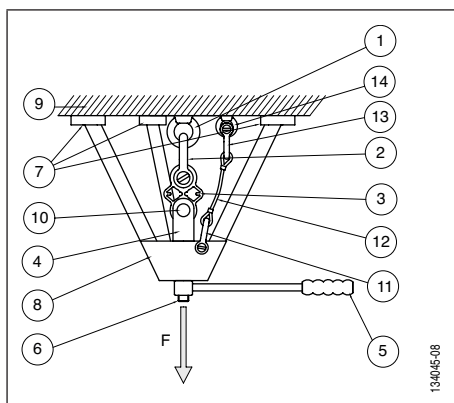
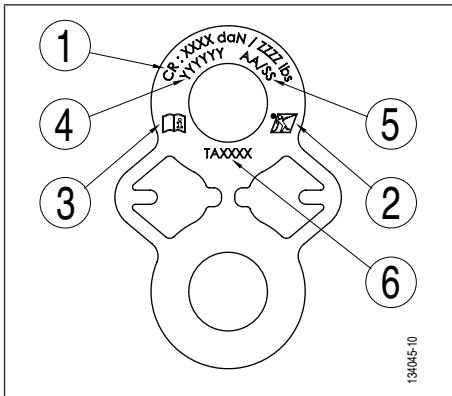
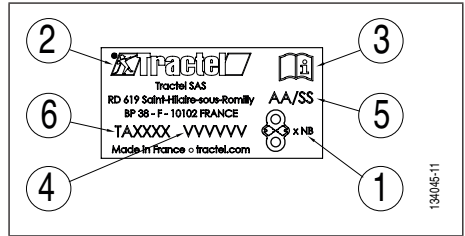

Fig. 6
Fig. 8
Fig. 9
- 1 manually-operated loaded device, tripod type (see Fig. 6, page 5),
- 1 safety device to secure the loading device in the event of shearing of the anchor point tested, comprising of (see Fig. 6, page 5):
- 1 safety sling of appropriate length (see Fig. 6, page 5, sections 4.2. Diagram and 4.3. Checks before installation),
⚠ DANGER: To test an anchor point using the TA test plate, the operator must use a manually activated tripod loading device specifically designed and sized for placing under traction load without risking the anchor point to be tested (Fig. 6, page 5) or any other apparatus placed under a load in traction of the TA test plate especially designed and sized to be used in complete safety.
Refer to Fig. 6 for the procedure detailed below.
All of the procedure described below relates to Fig. 6. Refer to Fig. 8, page 13, for the procedure detailed below.
1. Gradually increase the load by acting on the loading device (Fig. 6, page 5, item 8). The operator must continuously observe the plate in order to stop the loading operation immediately on shearing of the 'S' section of the plate (Fig. 9).